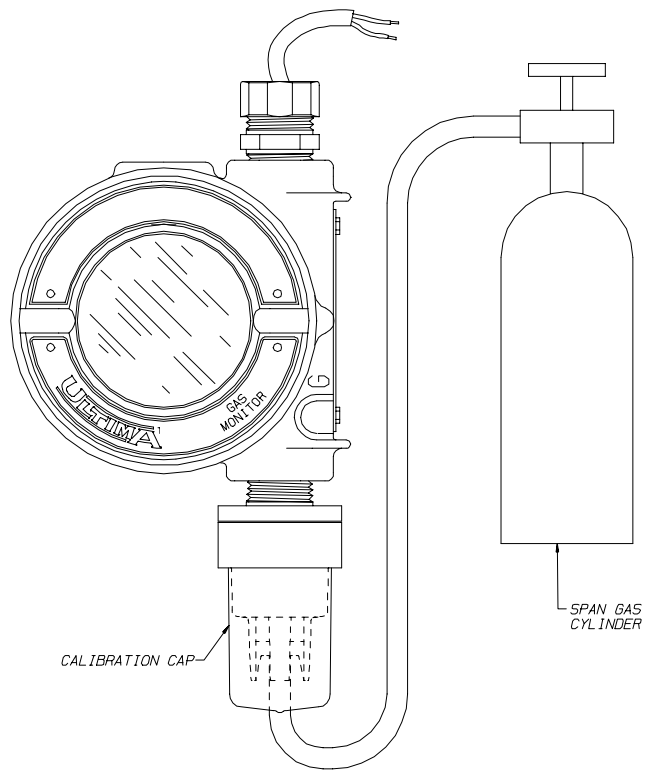

Figure 6. Calibration Set-ups
1. Connect the SPAN gas cylinder and tubing as shown in FIGURE 6 when not using zero gas. **Do not turn on the flow controller.** Wait two minutes.